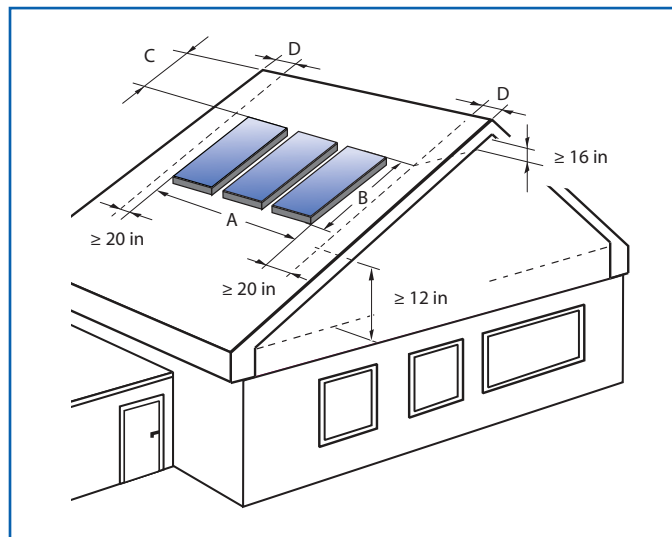

Fig. 64 Space requirements for rooftop and roof integration of solar collectors (explanation in the text body); dimensions in inches
**On ceramic tile roofs dimensions A and B** represent the area requirement for the selected number and layout of collectors (Fig. 64). With roof integration they include the area required for the collectors and their connection kits. These dimensions must be considered to be the minimum requirements.